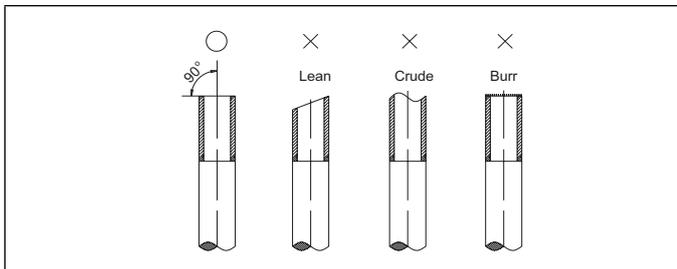

Figure 27. Cutting Piping
4. Cut the selected pipes with a pipe cutter. Make the cuts flat and smooth as illustrated in "Figure 27. Cutting Piping".